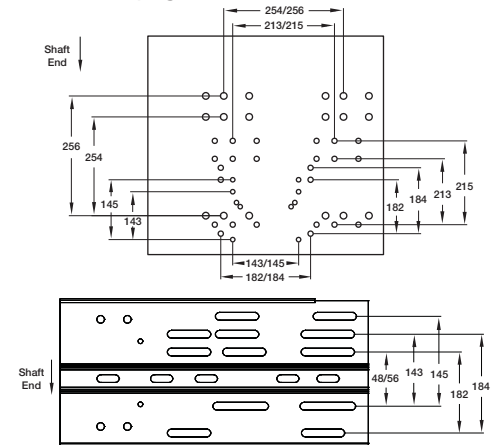

Figure 8 — Motor Mounting Positions Based on Motor Frame Size
1. Secure motor to plate using hardware provided. Holes will align when the motor frame (shaft end) is flush with the edge of the motor plate. Motor mounting hardware is included in the hardware kit attached to the drive frame. Refer to Figure 8 for mounting position based on motor frame size. Refer to page 8 for contents of kit.